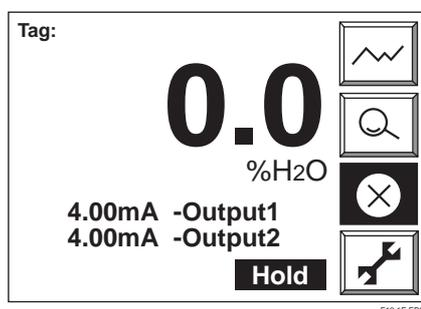
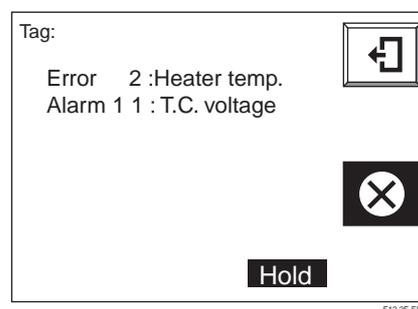

Figure 12.1
Figure 12.2
- (1) Stops the supply of power to the heater in the detector to insure system safety.
- (2) Causes an error indication in the display to start blinking to notify of an error generation (Figure 12.1).
- (3) Sends an output contact if the error is set up for “Output contact setup” for that contact (refer to Section 8.4, “Output Contact Setup”).
- (4) Changes the analog output status to the one set in “Output hold setting” (refer to Section 8.2, “Output Hold Setting”).
When the display shown in Figure 12.1 appears, pressing the error indication brings up a description of the error (Figure 12.2). The content of errors that are displayed include those shown in Table 12.1.